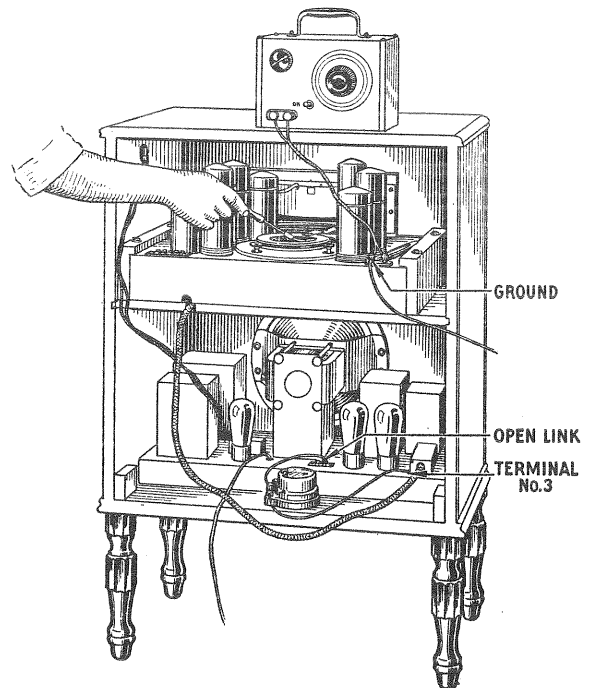

Fig. 24—Re-aligning the Tuning Condensers
The parts required for re-aligning consist of a modulated oscillator, such as stock No. A-6004; a special aligning wrench, stock No. A-6085; and a 0-8 volt a.c. voltmeter. All of these parts are shown in Fig. 24. The meter which is available in the Weston test box can be used if desired.
- a. Disconnect the link (on straight radio models) across the two terminals on the base of the amplifier (see Fig. 24), and connect one side of the 0-8 volt a.c. voltmeter to the terminal nearer the UX-245 Radiotrons. Connect the other side of the a.c. voltmeter to No. 3 terminal (ground) on the amplifier terminal strip or clip to any clean metallic part of the amplifier base. The meter is thus connected in the speaker output circuit but the voice coil is out of the circuit. Silent aligning can thus be accomplished.